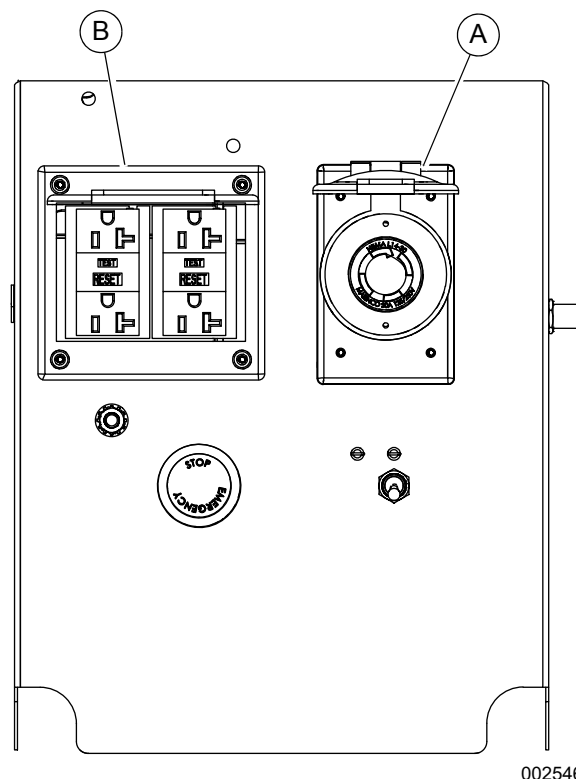

Figure 3-7. Location of Receptacles
See Figure 3-7. The unit is equipped with convenience outlets for powering accessories or tools from the generator. Power is supplied to the outlets any time the engine is running and the 240VAC outlet breaker is switched to the ON (I) position. Each outlet has an individual circuit breaker, located on the control box. Refer to Control Panel.
See Figure 3-7. The circuit breakers are labeled with the corresponding voltage for the receptacle they protect. The standard receptacle panel is equipped with the following receptacles: